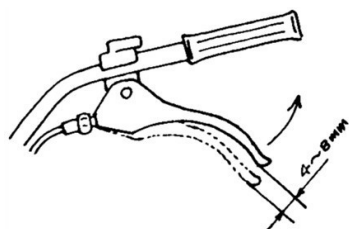

Figure 9
- First confirm tension of clutch cable. Normally the cable shall have a 4~8mm degree of freedom, if not, please loosen the locking nut and adjust the cable, and tighten the locking nut after finishing adjustment (See Fig. 9).